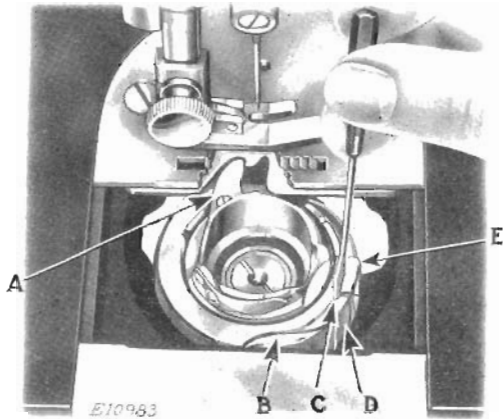
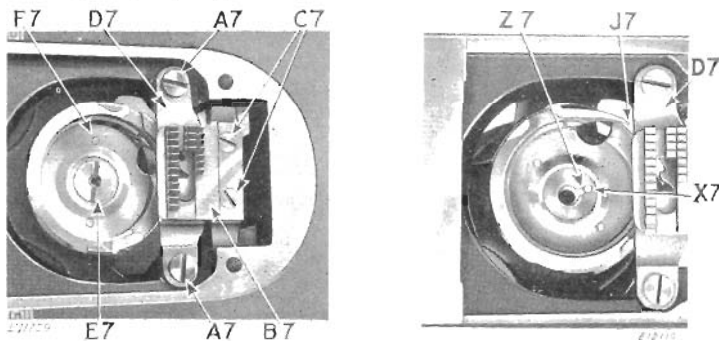

FIG. 30. BOBBIN CASE IN POSITION
FIG. 31. To REMOVE ROTATING HOOK      FIG. 31A. To REMOVE ROTATING HOOK
To remove the rotating hook bobbin case it is not necessary to remove the throat plate, although for purposes of illustration, throat plate and feed dog are shown broken away in Fig. 30.
Remove rotating hook bobbin from bobbin case. Rotate balance wheel until end of rotating hook bobbin case retaining ring (E) is toward front of machine as shown in Fig. 30. Insert the blade of a small screw-driver into slot (C) between the ring and edge of the rotating hook bobbin case retaining ring spring as shown in Fig. 30. With a downward pressure turn the screw driver one half turn to the right so that the screw driver will drop into
To replace, first put bobbin case in position with rotating hook bobbin case finger (A) in the opening or notch in rotating hook bobbin case position plate under the feed dog as shown in Fig. 30. Turn bobbin case back and forth slightly to make sure it is properly seated, then place hook ring (E) in position with cut-out (B) opposite spring (D). Press the ring into place and turn it in the direction of hook rotation until the spring locks it in position. Replace bobbin.
Move the slide plate to the left, then take out the two throat plate screws and remove throat plate. Remove the two feed dog screws (C7, Fig. 31) and lift off feed dog (B7). When replacing feed dog, insert and tighten feed dog screws (C7).
Move the slide plate to the left and remove throat plate. Remove feed dog as instructed at bottom of preceding page. Remove rotating hook bobbin case position plate screws (A7, Fig. 31) and rotating hook bobbin case position plate (D7). When replacing, make sure that the position plate (D7) is placed to obtain full thread space between rear side (the side farthest from the operator) of rotating hook bobbin case finger (A, Fig. 30) and the adjacent side of the notch or opening in position plate. While tightening screws (A7) apply pressure to the plate (D7) in a backward direction (away from the operator); also to the right, thus insuring that, when screws (A7) are fully tightened, full thread space is provided.
Move the slide plate to the left and remove throat plate. Remove rotating hook bobbin case as instructed on page 42. Remove rotating hook screw (E7, Fig. 31), uncovering rotating hook position pin (X7, Fig. 31A) at upper end of rotating hook shaft.
Rotate balance wheel to bring feed dog to its highest position, and to bring rotating hook point (J7) within  $\frac{1}{16}$  inch from rotating hook bobbin case position plate (D7), as shown in Fig. 31A. The pin (X7) will then be in the position shown in Fig. 31A, and the rotating hook can easily be removed. While the removal of the throat plate is not necessary, it is suggested as a convenience when replacing rotating hook bobbin case finger (A, Fig. 30) in its notch in position plate.
To replace, reverse removal operations, keeping pin (X7) in the position shown in Fig. 31A, and making sure that slot (Z7, Figs. 31A and 37), in rotating hook, is in engagement with pin (X7); also that finger (A, Fig. 30) is in its opening or notch in position plate as shown in Fig. 30. Insert and tighten screw (E7) and replace bobbin case as instructed on the preceding page; also replace throat plate.
Were the position plate removed and the bobbin case left in the machine, the rotation of the balance wheel might move rotating hook bobbin case finger (A, Fig. 30) to where the needle could strike it, thus damaging the needle.